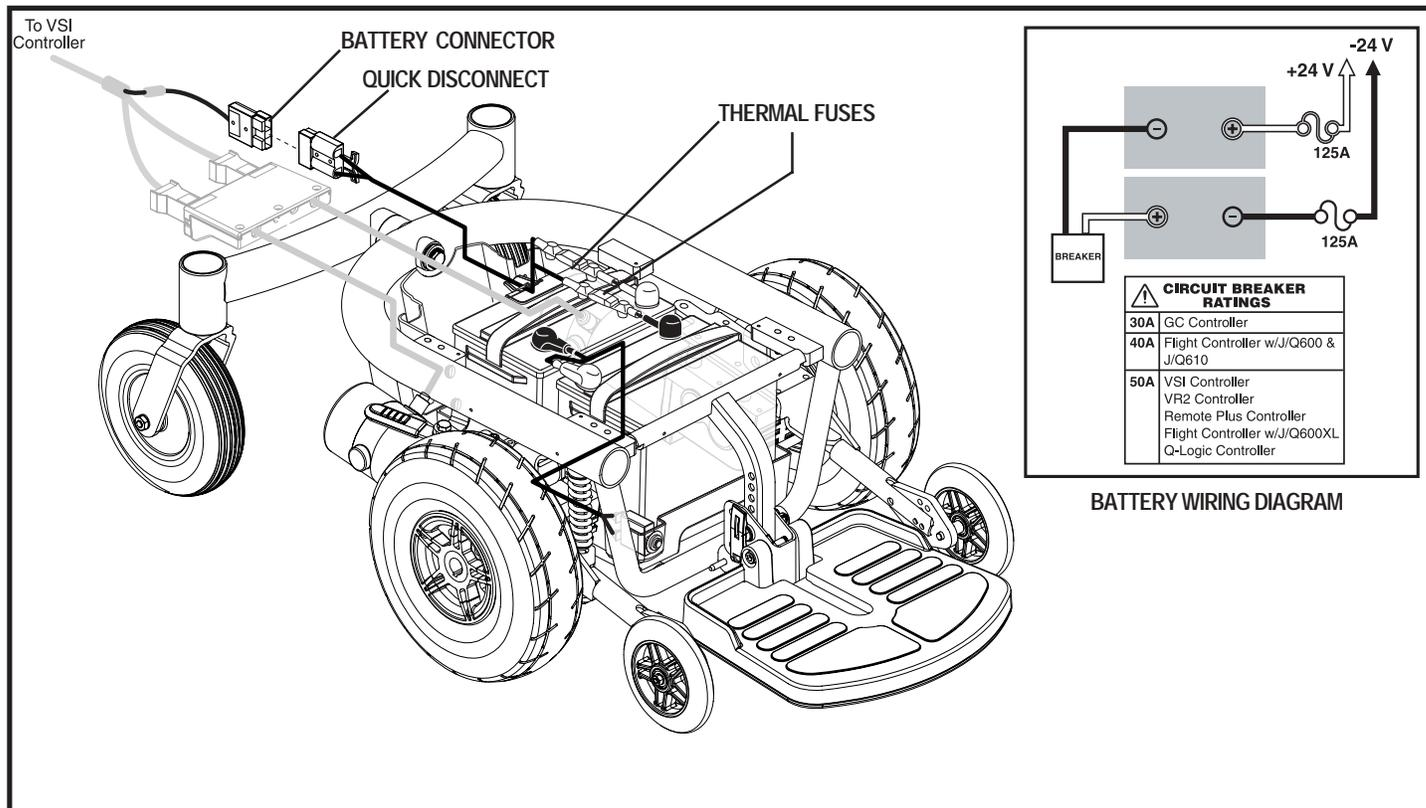

Figure 27. Jazzy 1103 Ultra Battery Connections
A battery wiring diagram is printed on a decal located on the battery tray. See figure 27. See VI. “Batteries and Charging” for correct battery specifications.
5. Unplug the battery connector. See figure 27.
18. Connect the wiring harnesses to the front battery. See figure 27.
19. Connect the wiring harnesses to the rear battery. See figure 27.